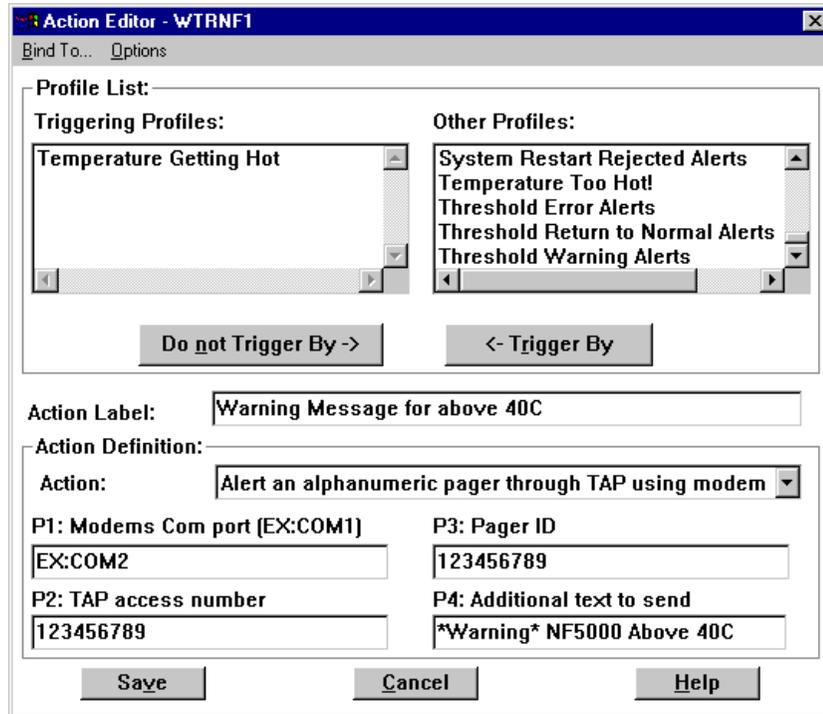

Figure 159. Profile Editor Setup for the 40°C Setup
- Select the Triggering Profiles you want the action to be triggered by per Figure 159.
4. Set up the Triggering Profiles and Action Definition as shown in Figure 159 for the first profile.